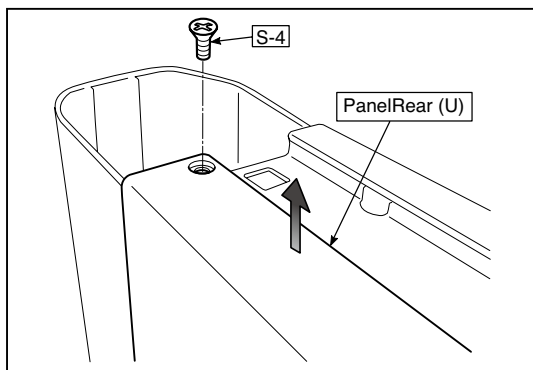

Fig.24
1. Remove the "S-4" screws shown in the figure 24 and then remove the Panel Rear (U).